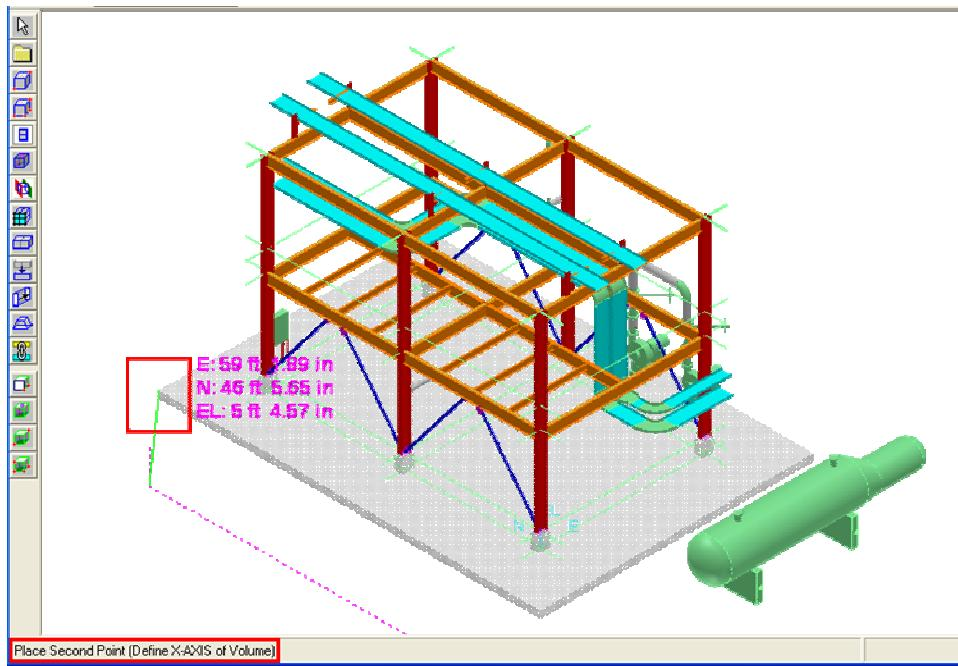

Figure 36: Selecting the First point to Place the Volume
4. Select the first point of the volume by using the **Pinpoint** ribbon. Key in the coordinates **E: 72', N: 58', EL: 0'** on the **PinPoint** ribbon for the first point. This point will define the starting point of the volume as shown in Figure 36.
- The bottom left corner of the SP3D window provides instructions to perform the required step - place the second point - as shown in the highlighted area in Figure 36.